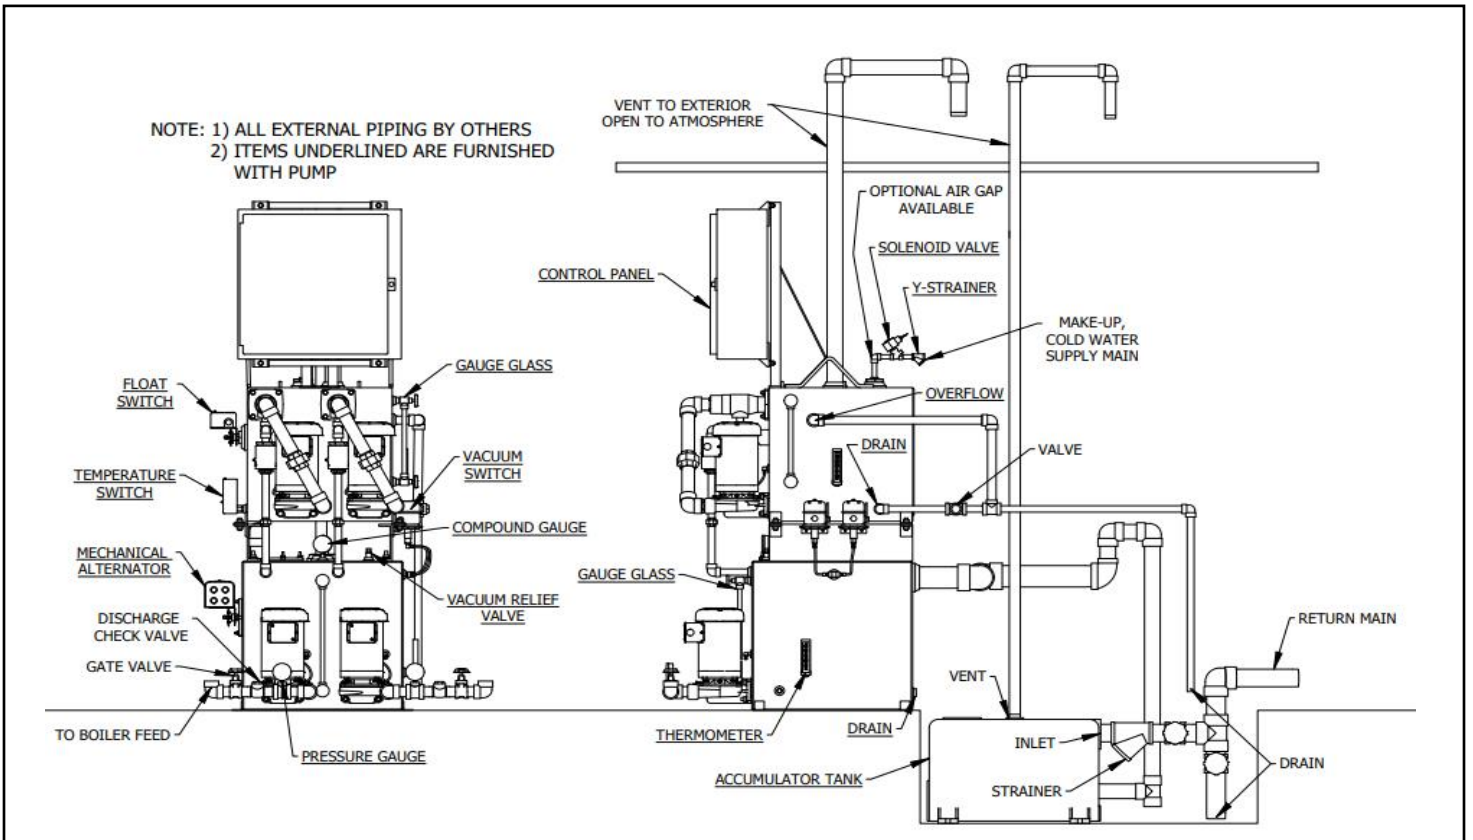

Figure 2
a. A vent should be installed extending from the accumulator tank of the vacuum pump to a point near the ceiling, but **NO LESS** than twelve (12) inches above the boiler water line. "Units with an auxiliary condensate
accumulator tank require a vent for the auxiliary tank that should terminate in an air check. The vent should be installed extending from the auxiliary condensate accumulator tank to a point near the ceiling, but no less than twelve (12) inches above the boiler water line (See Fig. 2 & 4)." **WARNING** Venting to same room as the system may cause humidity that can lead to equipment damage. Vent to exterior of building when possible.